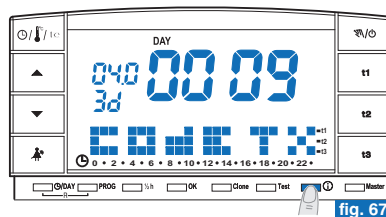

fig. 67
- From the previous screen (fig. 65), press **i** again: the display will show a serial number, which is transmitted by the chronothermostat each time data transmission is carried out (example in fig. 67).